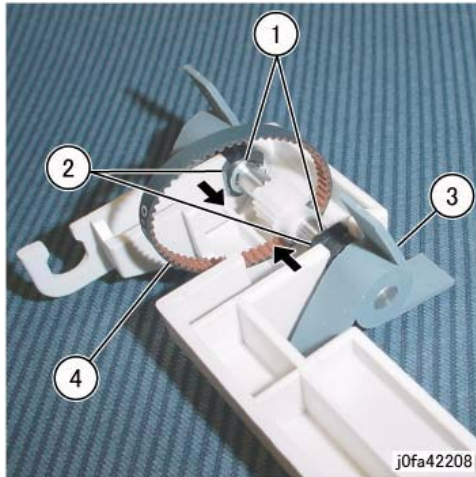

Figure 8 Removing the Paddle Belt
12. Remove the Paddle Belt (Figure 8):